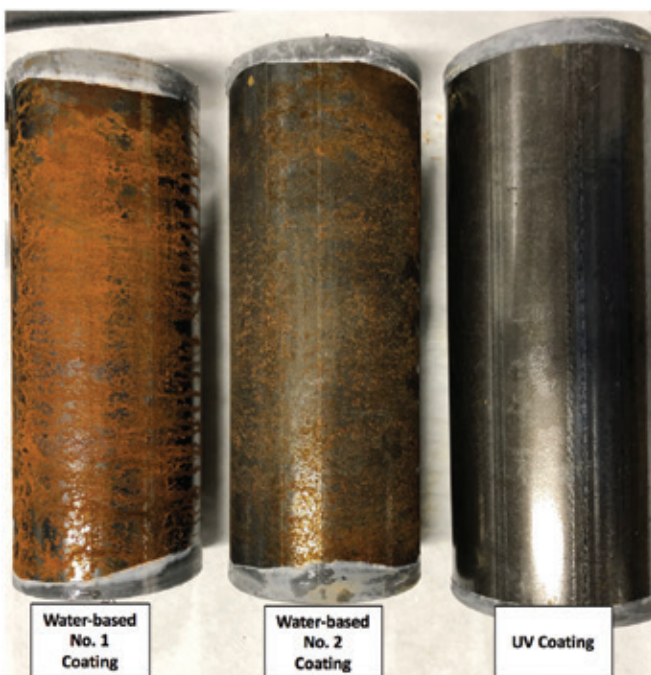

Figure 4: Pipe coating samples – after 24 hours – ASTM B117 salt fog testing cabinet
- Improved corrosion performance (see *figures 4 and 5*)